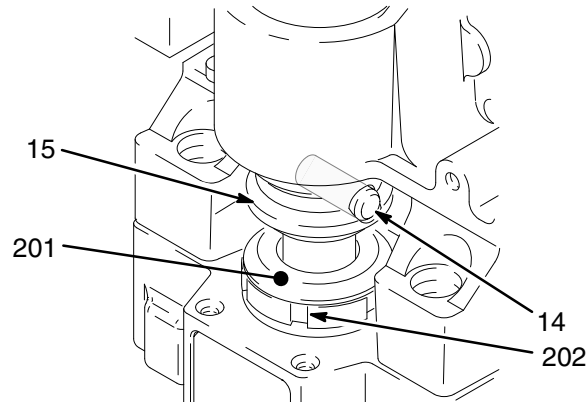

Fig. 18
Be sure retaining spring (18) is firmly in groove all around, to prevent pin (14) from working loose. See Fig. 18.